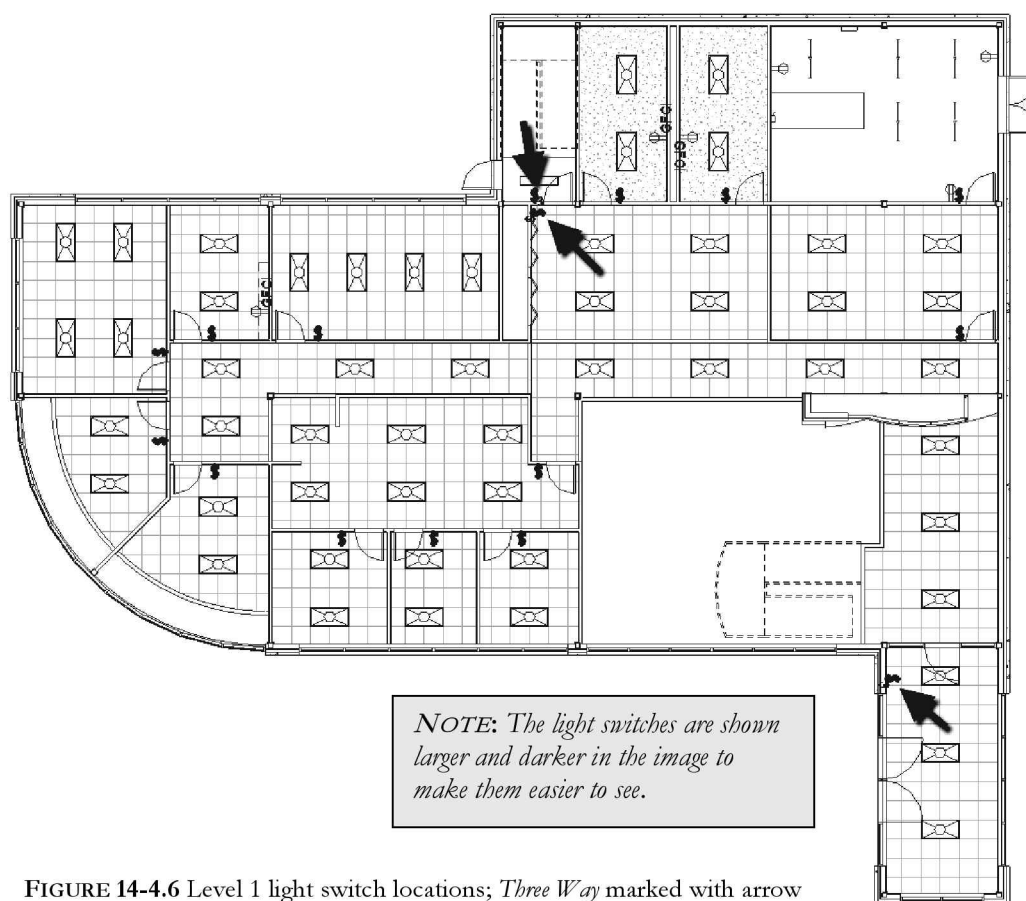

FIGURE 14-4.6 Level 1 light switch locations; *Three Way* marked with arrow
22. Place the remaining light switches on Level 1 per Figure 14-4.6.